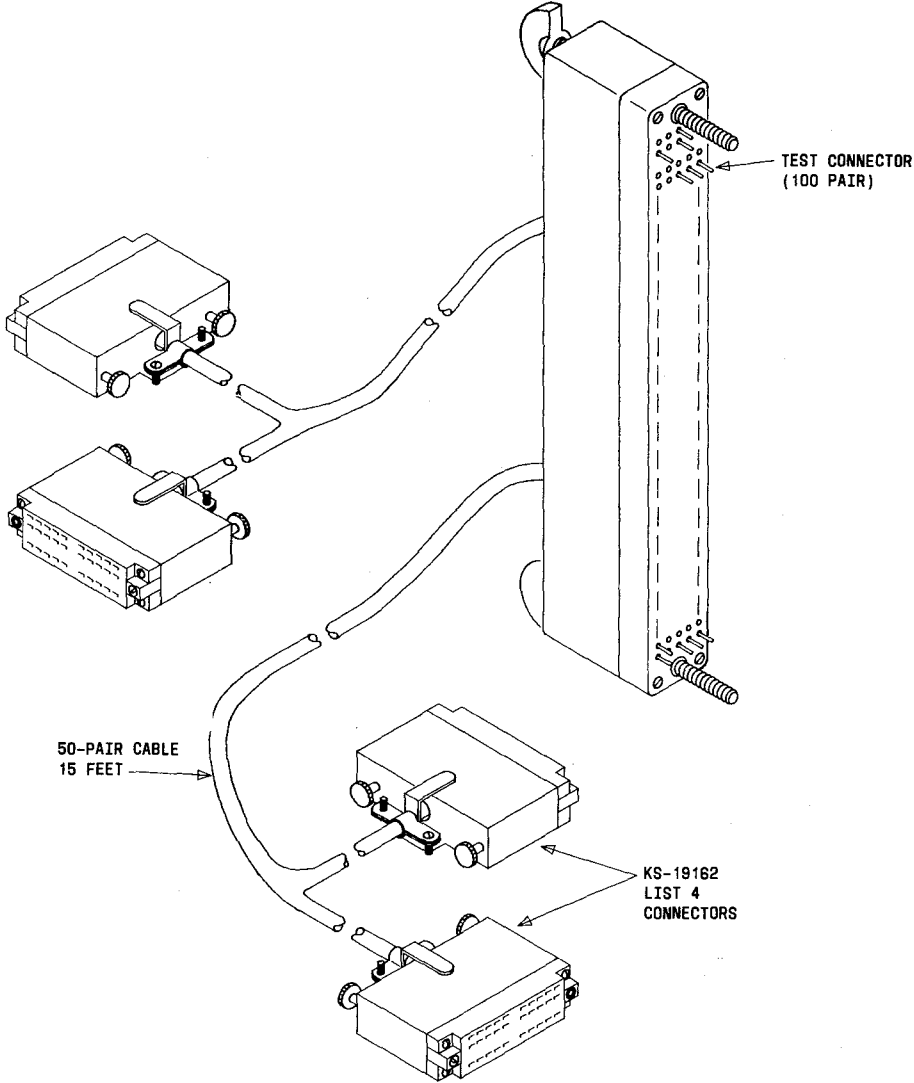

Fig. 12—T Test Connector
2.08 The *T test connector (AT-8987)*, shown in Fig. 12, consists of a two-piece, plastic-molded body in which 200 spring-loaded contacts are housed and connected internally to two 50-pair sheathed cables. Each 15-foot long test cord divides into two 25-pair branches which terminate on KS-19162 List 4 connectors. The T test connector mounts on 310-type connectors.